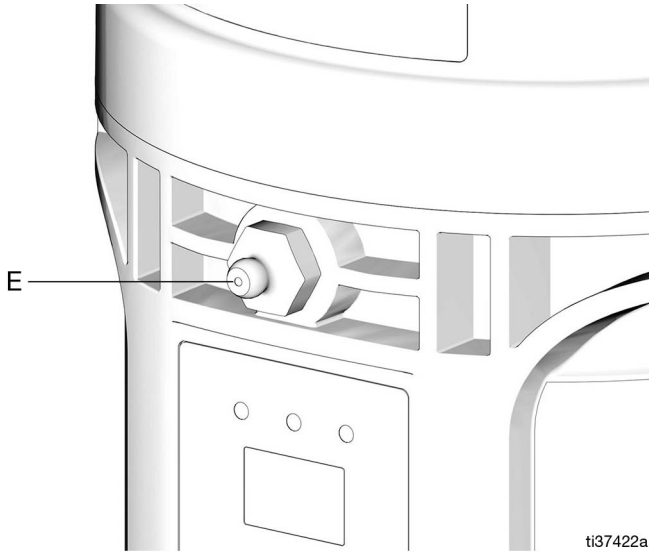

FIG. 19
1. Connect the fill hose to the Zerk Inlet Fill Fitting (E) (FIG. 19).